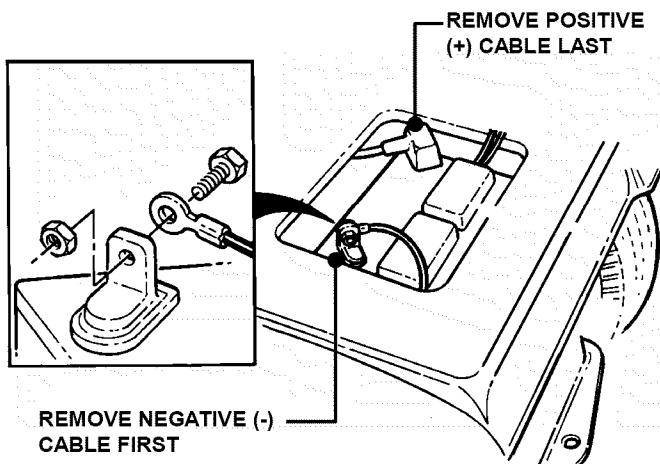

FIGURE 4.43
6. Remove battery. See Figure 4.43.
Cables must be connected to battery terminals in the proper position as shown in Figure 4.43. DO NOT attempt to charge battery while installed on tractor. DO NOT use "BOOST" chargers on the battery.